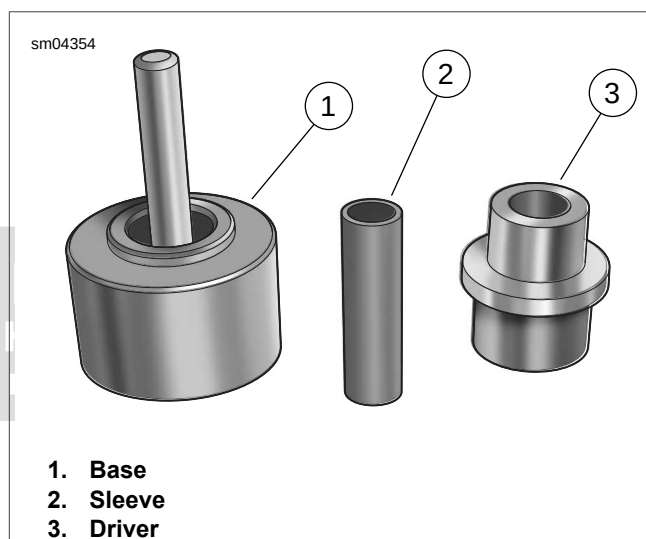

Figure C-2. Rear Wheel Compensator Sprocket Bearing Remover/Installer (Part No. HD-48921)
2. See Figure C-2. Obtain the REAR WHEEL COMPENSATOR SPROCKET BEARING REMOVER/INSTALLER (Part No. HD-48921).
1. See Figure C-2. Obtain the REAR WHEEL COMPENSATOR SPROCKET BEARING REMOVER/INSTALLER (Part No. HD-48921).